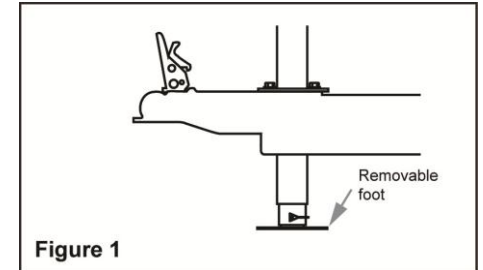

Figure 1
3. Remove the removable foot from the bottom of the jack (if applicable). (Fig. 1)